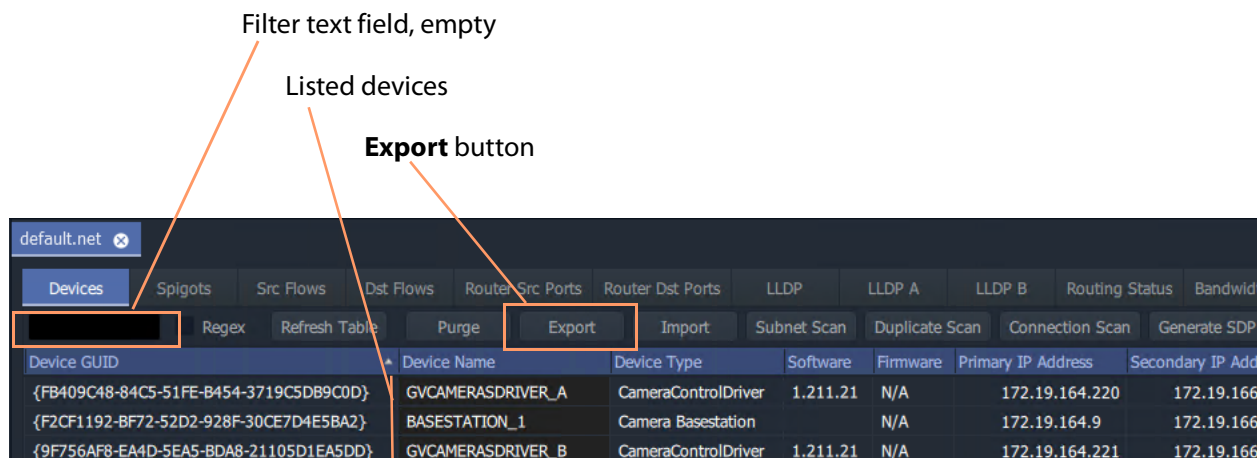

Fig. 17-30: Devices Tab - Export Button
- 1 Ensure that the filter text field is empty (see Figure 17-30).